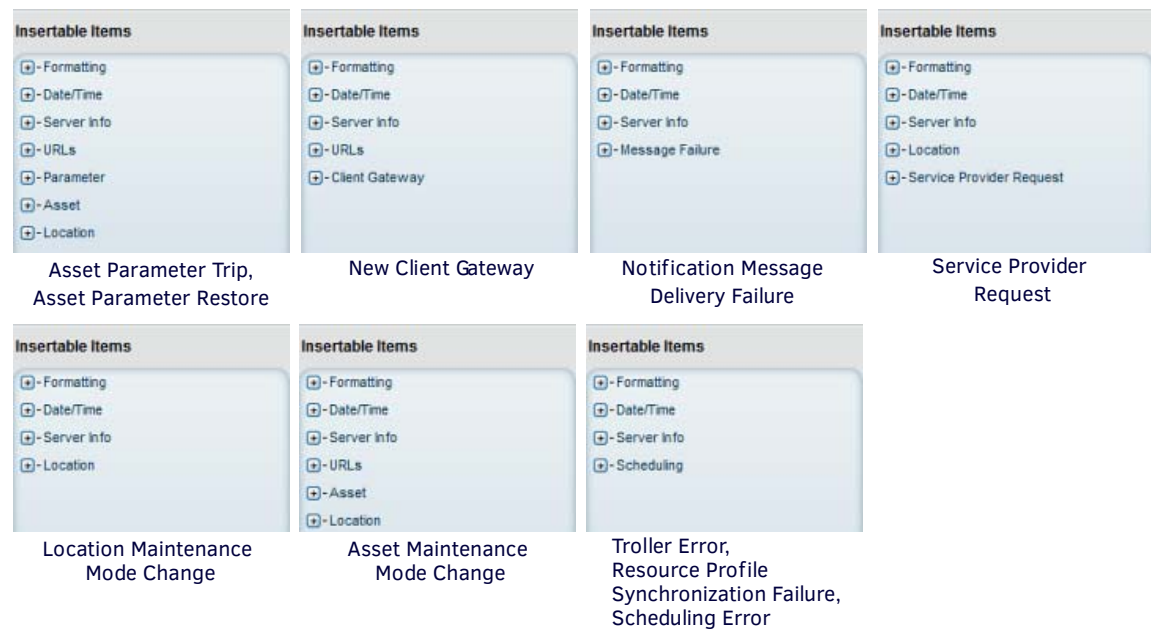

FIG. 386 Modify Template Settings dialog - Insertable Items window
4. In the **Insertable Items** window (FIG. 386), select which data items to insert into this Notification Template. The items presented in this window depend on the *Type* selected.